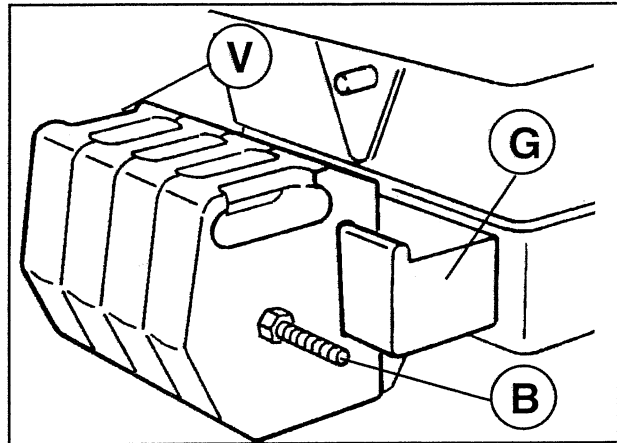

Fig. 27 Front ballast blocks
- 2) Up to 6 cast-iron ballast blocks (V) (Fig. 27) can be fitted by inserting them onto the support (G) from the side. They are fixed in place using a threaded bar (B) and the relative 4 nuts. The ballast blocks (V) weigh 25 kg each.